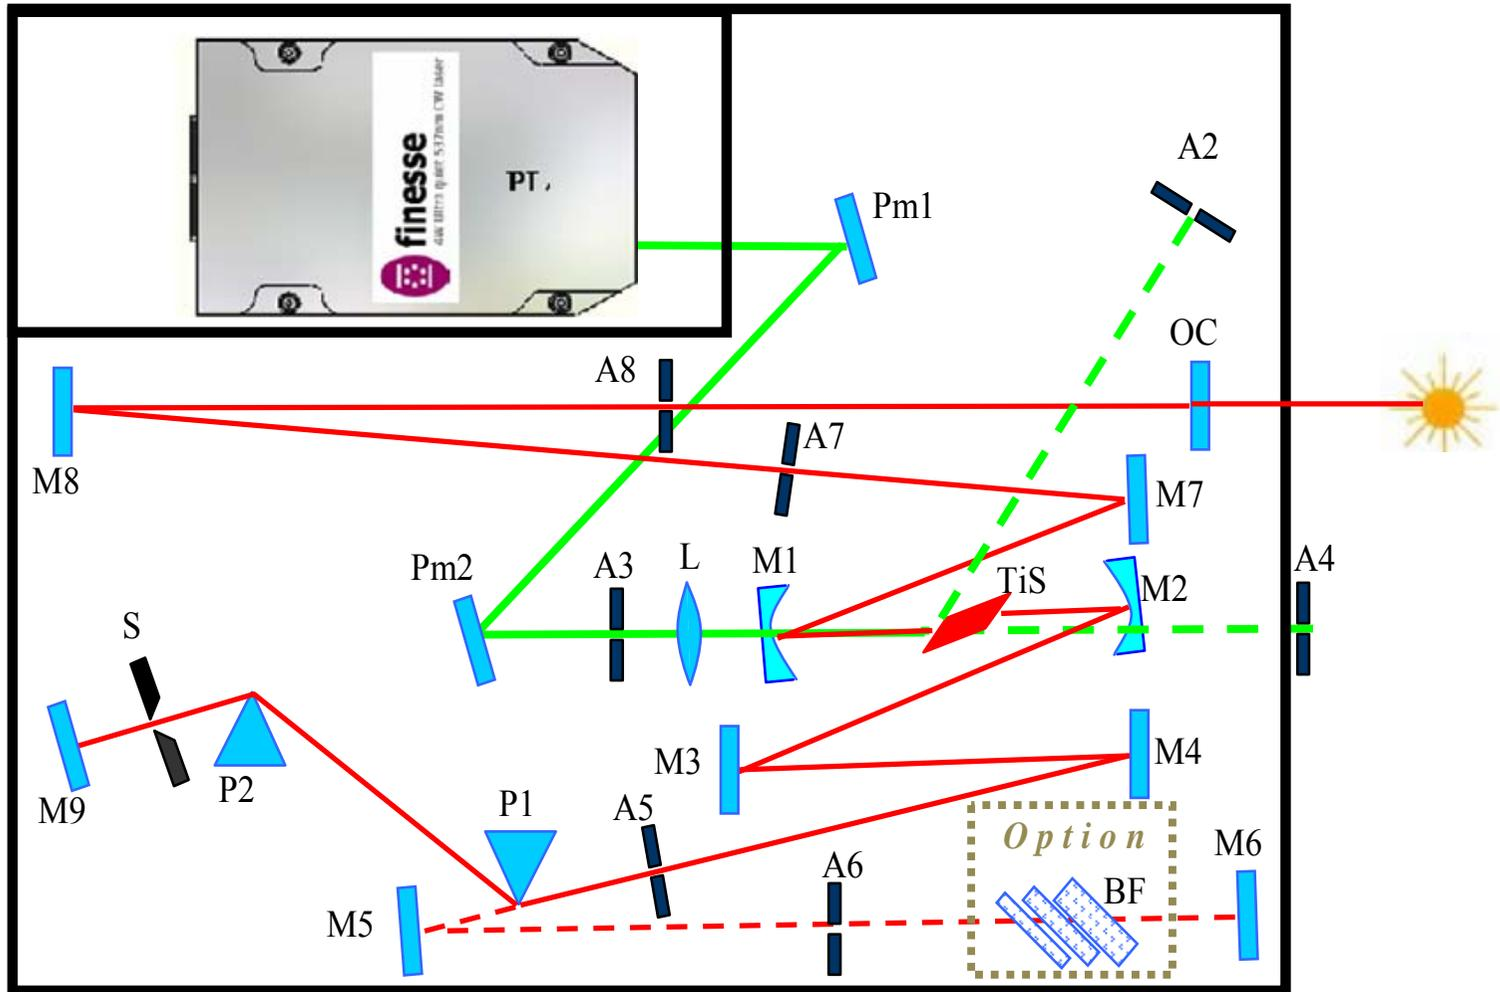
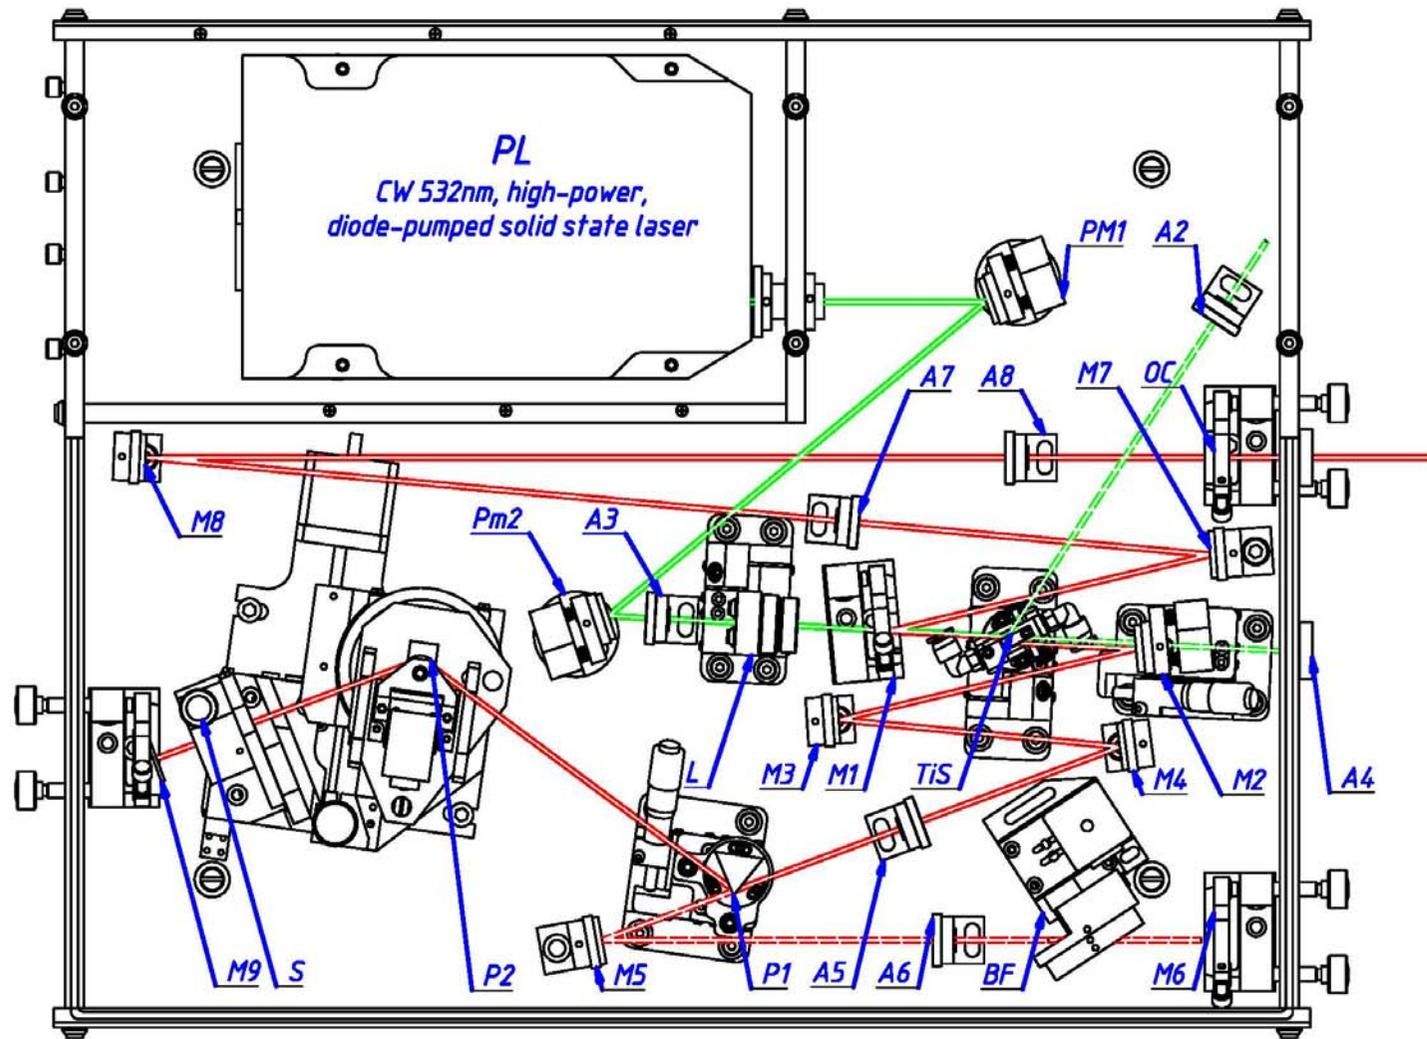

Fig. 3 Basic Layout of Trestles-50
Fig. 4 Schematic setup of Trestles-50
Del Mar Photonics modeled, analyzed and optimized the cavity design for optimum performance in minimal space. The result was a 10-mirror folded cavity (*Fig. 3* and *Fig. 4*). This scheme incorporates pump laser (PL), 10-mirror cavity (M1, M2, M3, M4, M5, M6, M7, M8, M9 OC), Ti:Sapphire crystal (TiS), lens for focusing of pump radiation (L), two prisms (P1 and P2) , slit (S). The transmission of the OC output mirror is optimized depending on the pump power and is between 0.05 and 0.15 (at 3 W or 6 W pump power respectively). The auxiliary M5 and M6 mirrors are used to facilitate tuning of the femtosecond cavity (formed by M1, M2, M3, M4, M7, M8, M9, OC). In this version of the Trestles-50 the slit and P2 prism translations stages are combined on one translation unit.
Del Mar Photonics has designed the laser in such a way that it can operate either in mode-locked tunable regime or in CW tunable regime. This can be achieved by inserting a 3-plate birefringent filter (BF) as spectral tuning element, into the auxiliary arm между зеркалами M5 и M6. The plates in the filter are birefringent plates with spatially calculated thickness. The filter is a very delicate element and can be aligned only at the factory. The birefringent filter inside the cavity selects the wavelength for which the filter inserts minimal losses. By rotating the filter you are changing the wavelength with minimal insertion losses. At this case CW resonator will consist of mirrors M1, M2, M3, M4, M5, M6, M7, M8, OC. To switch between the CW and femtosecond cavities simply insert or remove the prism into or out of the beam path between the M4 and M5 (Fig. 3 and Fig. 4).
The scheme of Trestles-50 depicted in *Fig. 3* and *Fig. 4* consists of the following optical elements for the basic configuration: